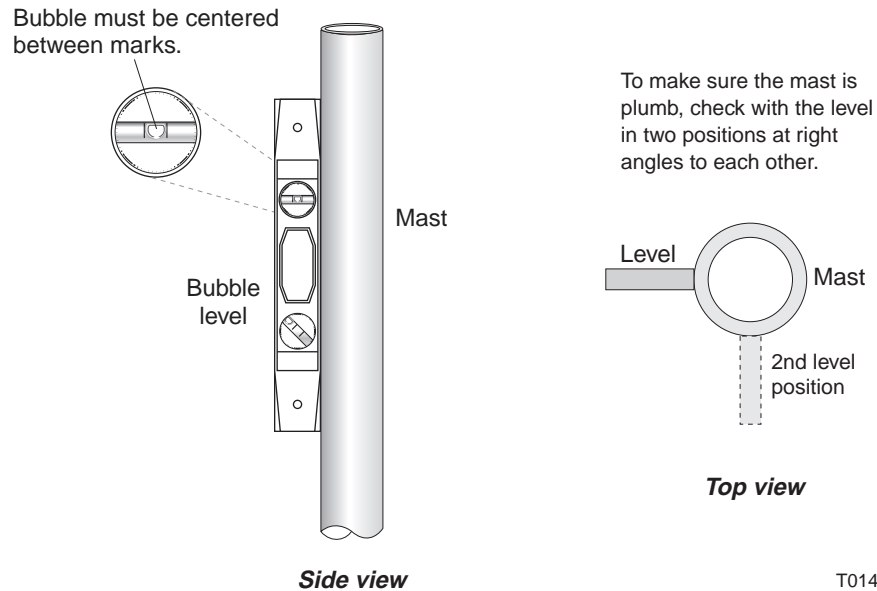

Figure 23: Making sure the mast is plumb
1. Before you install the Az/EI mount assembly onto the mast pipe, use a bubble level to verify that the mast is plumb. The mast *must* be plumb before you install the antenna assembly. Check the mast at two locations, 90° apart, as shown in Figure 23.